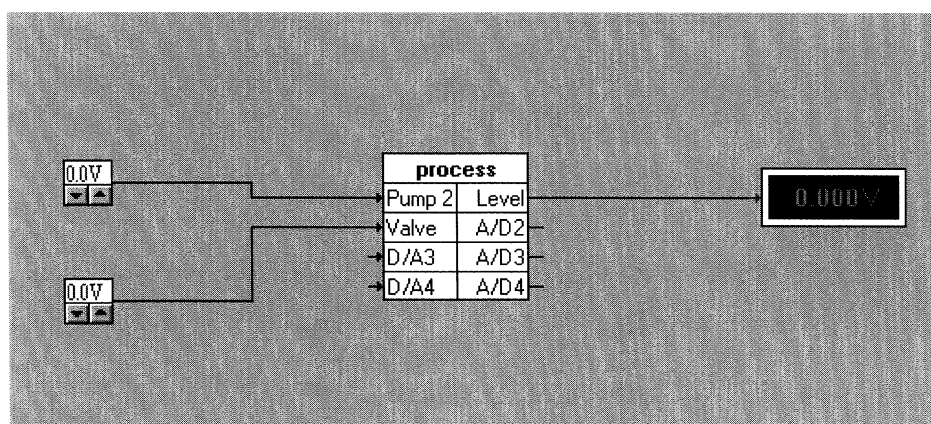

Figure 51 Process Block Renamed
- 5) Rename the inputs and outputs of the Process Block to match the connections of your Mimic Panel. In this example, channel D/A1 of the Mimic Panel is connected to Pump 2, D/A2 is connected to the valve and A/D1 is connected to the Level Transducer. See Figure 51.